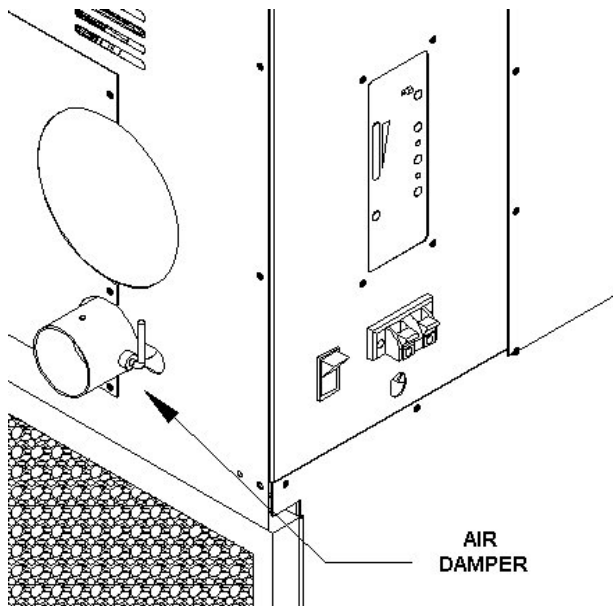

Figure 7
1. Under certain conditions it is recommended that the Furnace be connected to an outside source of combustion air to improve Furnace performance. Flexible metal hose, such as ClevFlex, or rigid metal pipe, (conduit), must be connected around (NOT INSIDE) the combustion air inlet tube (Figure 7). Be careful not to pinch or bend the outside air pipe with too small a radius which may e terminated flush with the outside wall but should be protected from wind and weather by a hood. Note: The outside air pipe must terminate above the maximum snow line.